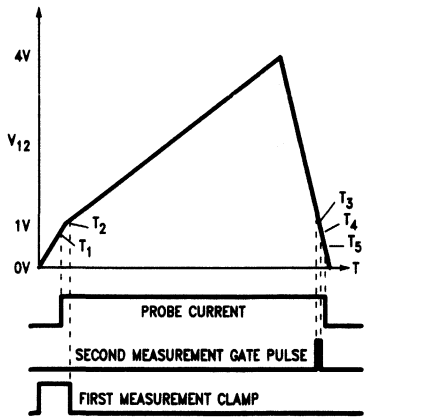

FIGURE 5
**Note 6:** Probe 1 amplifier tests are measured with pin 12 ramp voltage held between the  $T_3$  and  $T_4$  conditions (pin 12  $\approx 1.1V$ ) having previously been held above 4.1V to simulate ramp action. See Figure 5.
These probes require measurements to be made of their resistance before and after power has been dissipated in them. With a probe connected as probe 1 in the connection diagram the LM1042 will start a measurement when pin 8 is taken to a logic low level ( $V_8 < 0.5V$ ) and the internal time-base ramp generator will start to generate the waveform shown in *Figure 5*. At  $0.7V$ ,  $T_1$ , the probe current drive is switched on supplying a constant  $200\text{ mA}$  via the external PNP transistor and the probe failure circuit is enabled. At  $1V$  pin 1 is unclamped and  $C_T$  stores the probe voltage corresponding to this time,  $T_2$ . The ramp charge rate is now reduced as  $C_T$  charges toward  $4V$ . As the  $4.1V$  threshold is passed a current sink is enabled and  $C_T$  now discharges. Between  $1.3V$  and  $1.0V$ ,  $T_3$  and  $T_4$ , the amplified pin 1 voltage, representing the change in probe voltage since  $T_2$  (and as the current is constant this is proportional to the resistance change) is gated onto the memory capacitor at pin 14. At  $0.7V$ ,  $T_5$ , the probe current is switched off and the measurement cycle is complete. In the event of a faulty probe being detected the memory capacitor is connected to the regulated supply during the gate period. The device leakage at pin 14 is a maximum of  $2\text{ nA}$  to give a long memory retention time. The voltage present on pin 14 is amplified by  $1.2$  to drive pin 16 with a low impedance,  $\pm 10\text{ mA}$  capability, between  $0.5V$  and  $4.7V$ . A new measurement can only be started by taking pin 8 to a low level again or by means of the repeat oscillator.